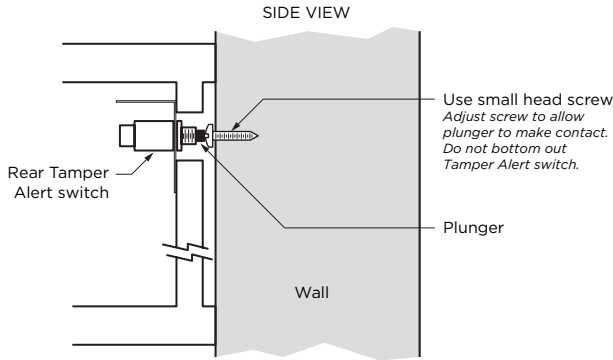

Figure 1
5. Insert a screw into the wall through the rear Tamper Alert switch hole (C) on the back plate. Align Rear Tamper Alert plunger in rear Tamper Alert hole (C) as shown in Figure 1 and 2. Check plunger contact by GENTLY pressing the bracket flush to the back plate.